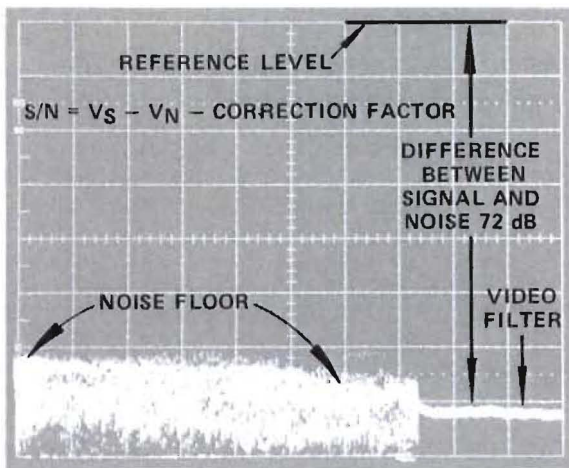

Figure 36 Measuring the Noise Floor
4. Switch the 1000 Hz tone off, install a shorting jumper and observe the noise floor on the display. Use the analyzer VIDEO FILTER to average the noise so the **amplitude of the noise floor (VN)** can be measured as shown in Figure 36.